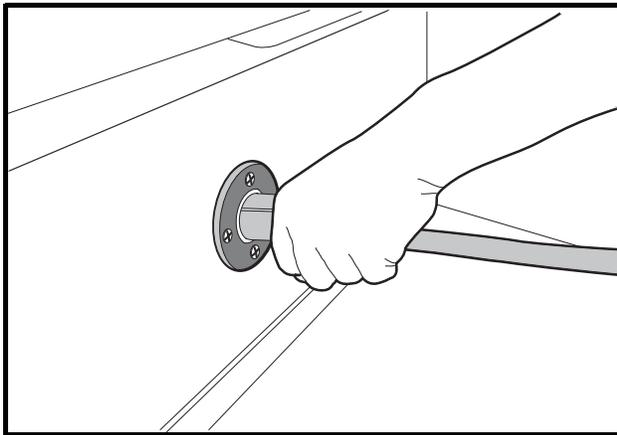
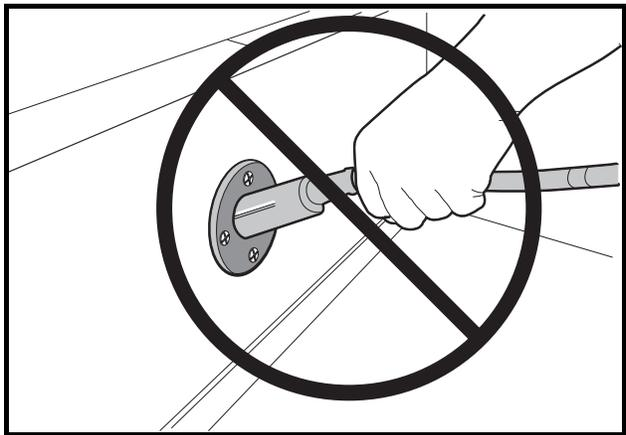

Figure 20 Charger Receptacle
Figure 21 Charger Cord Removal
- When using a stationary charger, do not pull on the DC cord (Figure 21, Page 44). Do not twist, rock, or bend the plug. To disconnect the plug from the receptacle, grasp the plug, not the cord, and slowly pull it straight out of the receptacle (Figure 20, Page 44).
Insert charger AC plug into a dedicated AC receptacle that is properly grounded and wired in accordance with the National Electric Code and all local codes and ordinances. Then insert charger DC plug into the vehicle receptacle. Charger will turn on two to ten seconds later (**Figure 20**).